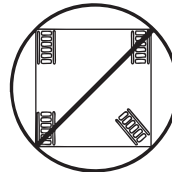

Figure 3
4. Ensure that all skates are properly aligned during use, Figure 3.